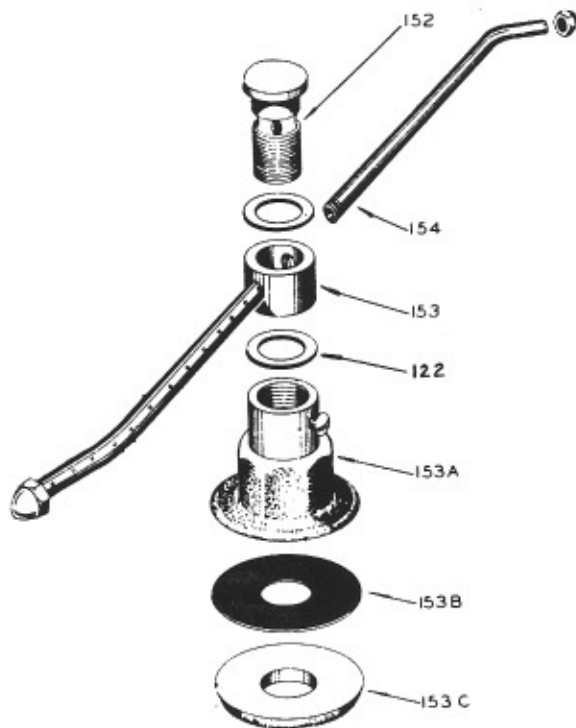

Figure 195
Refer to Figure 195. It shows exploded view of the revolving rinse assembly, which is located in the rinsing compartment. The rinse assembly is powered by car water line pressure. To compensate for wear in the bushing, loosen set screw in rinse base (153 A) and tighten rinse pin (152) until proper adjustment is made.